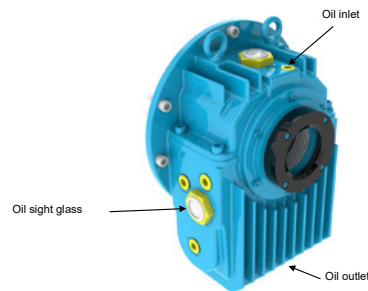

Figure 50 - Sleeve bearing
- Drain the oil through the drain hole located at the bottom of the bearing (see Figure 50);